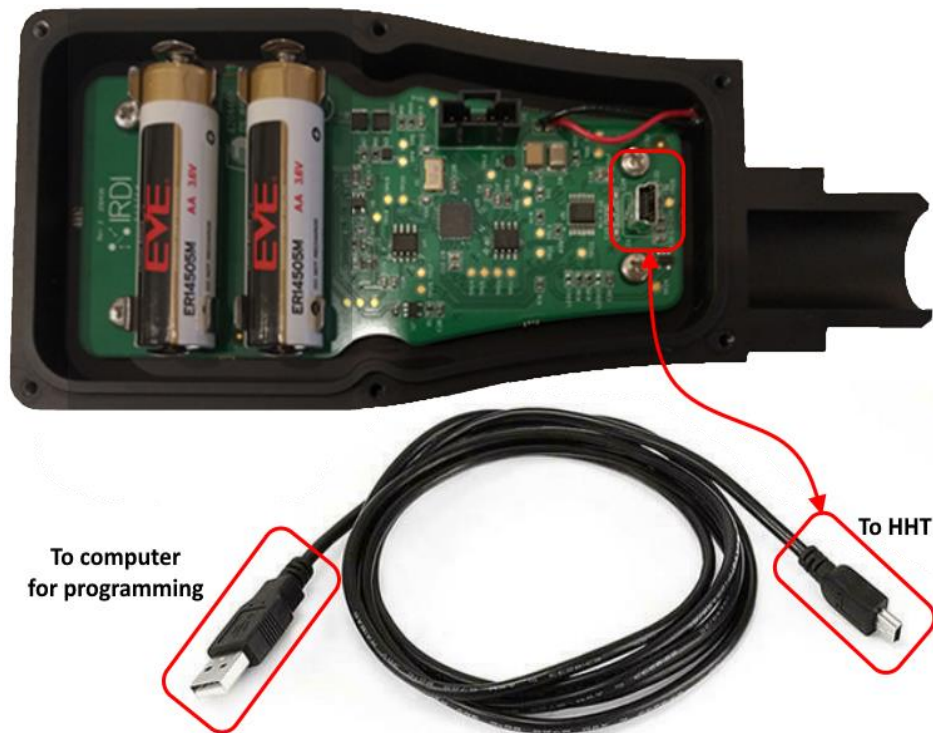

FIGURE 5-1 HHT PROGRAMMING SETUP
STEP 2	Attach the USB cable (5-pin Mini-b connector) to the USB connector on the HHT's circuit board – see Figure 5-1 above.
To set up infrared data transmitter hardware, be sure that you are connected to the internet, then follow the steps below, and see Figure 5-1.